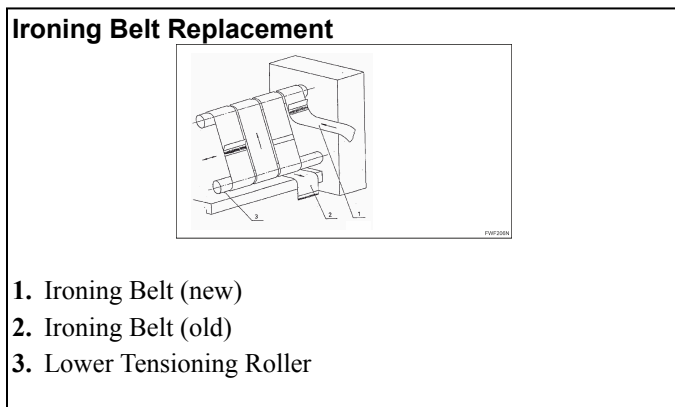

Figure 43
- The replacement procedure of the ironing belts is illustrated in *Figure 43*.